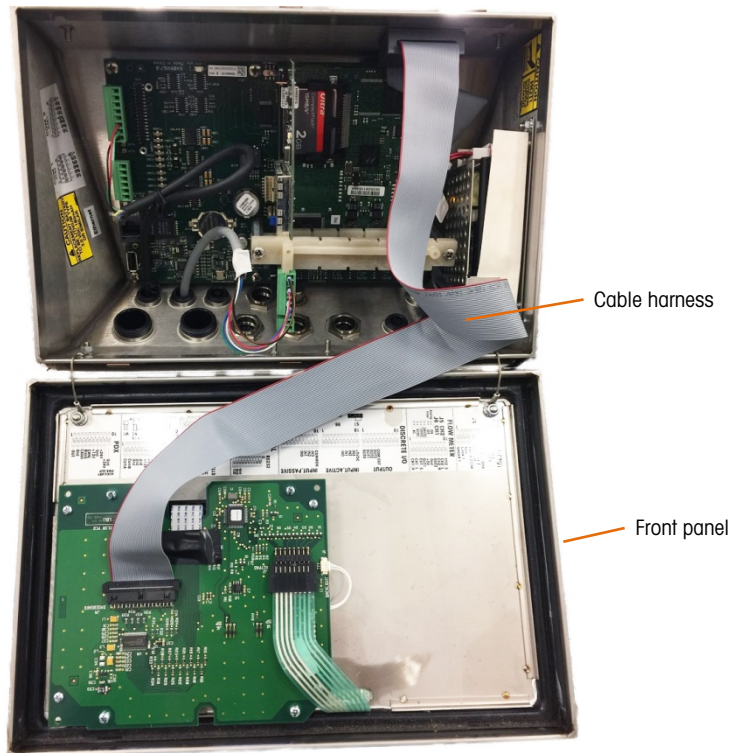

Figure 2-11: Front Panel Reversed, Longer Cable Harness Installed
5. Connect the replacement cable harness (64087303) as shown in Figure 2-11.